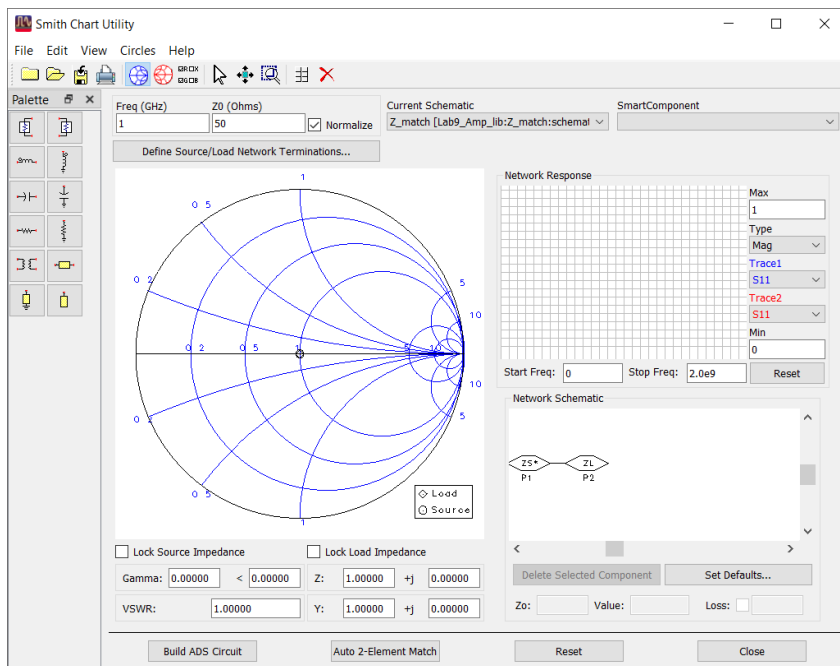

Figure 18. Smith Cshart Utility
2. Open the Smith Chart Utility, which can be found under **Tools > Smith Chart**. The utility is shown in Figure 18.